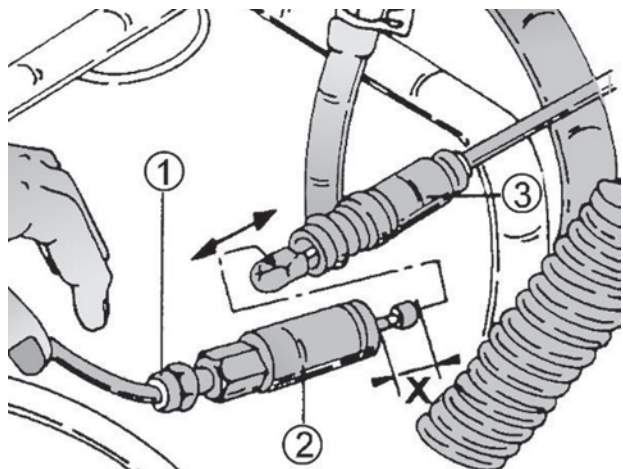

Fig. 1.5. - Details for the removal of the cold start operating cable. The numbers are referred to in the text.
- Disconnect the operating cable from the cold start device. To do this, pull the cable in Fig. 1.5 tight, screw in the adjusting screw (1), separate the plugs (2) and (3) and unclip the cable.